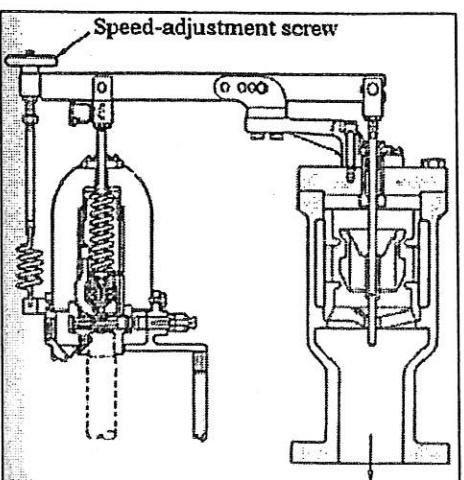

Figure 1 / Gambarajah 1
- (b) Governor is the equipment that widely found in the impulse turbine. Figure 1 below is example of governor. Explain :